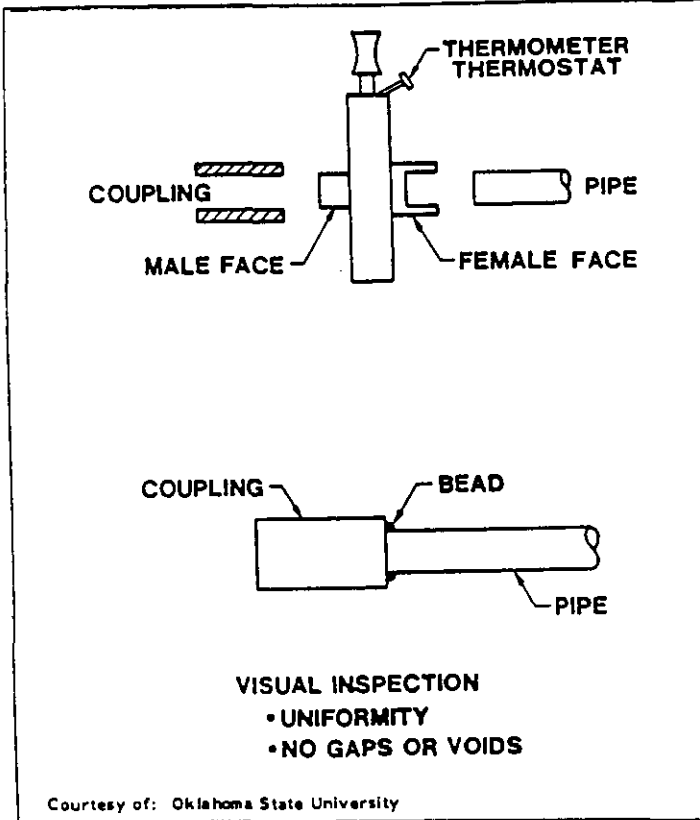

FIGURE 16
**BUTT FUSION**--The second type of heat fusing joining is the butt fusion procedure where the 2 pipe ends are simultaneously heated to a plastic state and brought together to form the heat fused joint (see Figure 16). A single heat fusion process is required to form the joint between the two plastic pipe ends. The butt fusion process is performed by using specially designed machines (available from several manufacturers) which provide secure holding of the two pieces to be fused, aligning the pieces, trimming and squaring their ends, heating the surfaces to be joined, and butting them together while they remain in a plastic state.
**SIDEWALL BUTT FUSION JOINING**--In addition to joining the flat ends of pipe or fittings, the butt fusion process can also be used when joining the concave surface of a service saddle to the convex surface on the sidewall of a pipe (see Figure 17). This is done by heating these surfaces with appropriate convex and concave shaped heaters and then butting these surfaces together. This is known as sidewall fusion joining. Typical butt fusion fittings are illustrated in Figure 16.